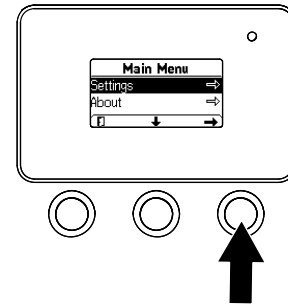

Figure 24
1. From the **MAIN MENU**, use the center button to scroll down to the **SETTINGS MENU** and press the right button (Figure 24).